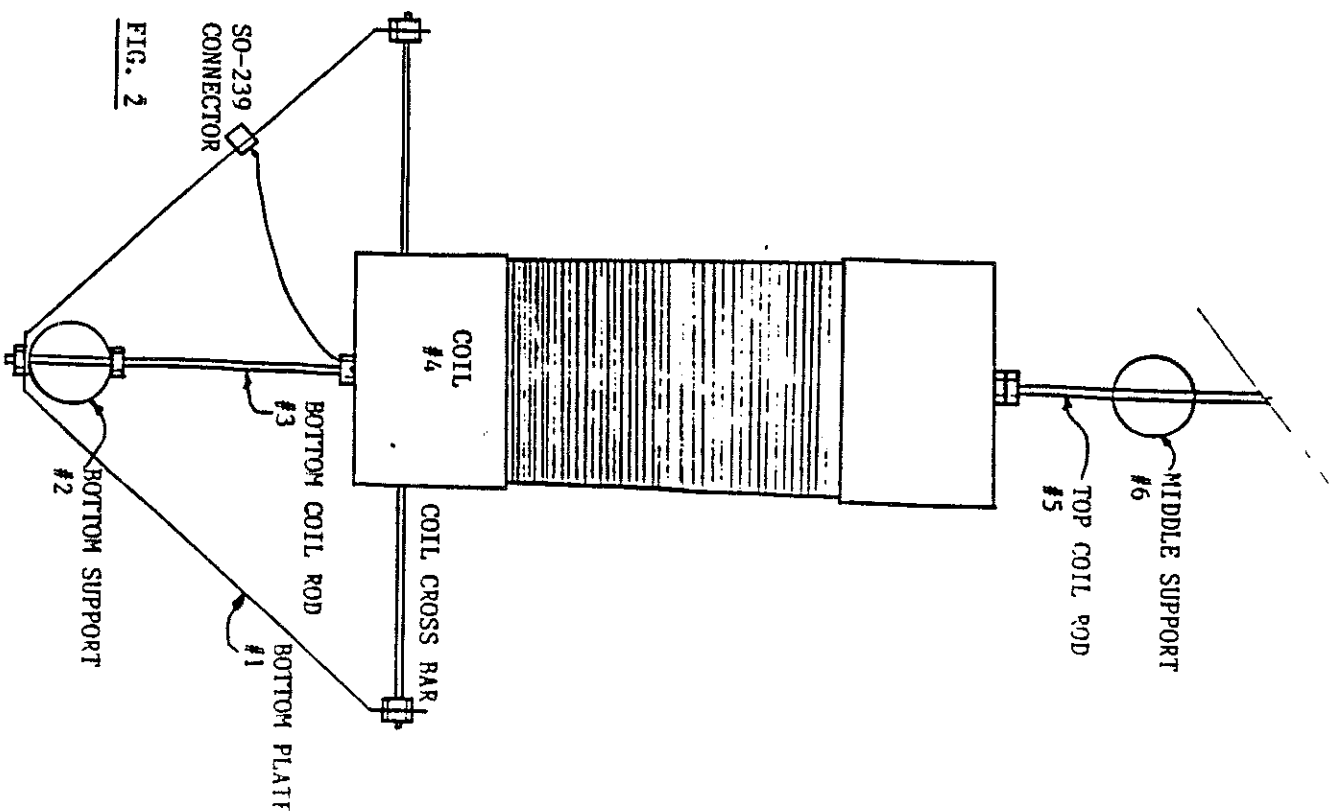

FIG. 2
4. Put a stop nut on each end of the COIL CROSS BAR. Insert the COIL CROSS BAR into the side holes and secure with a second nut. See FIG. 2. NOTE: There may be some downward tension on the bar.